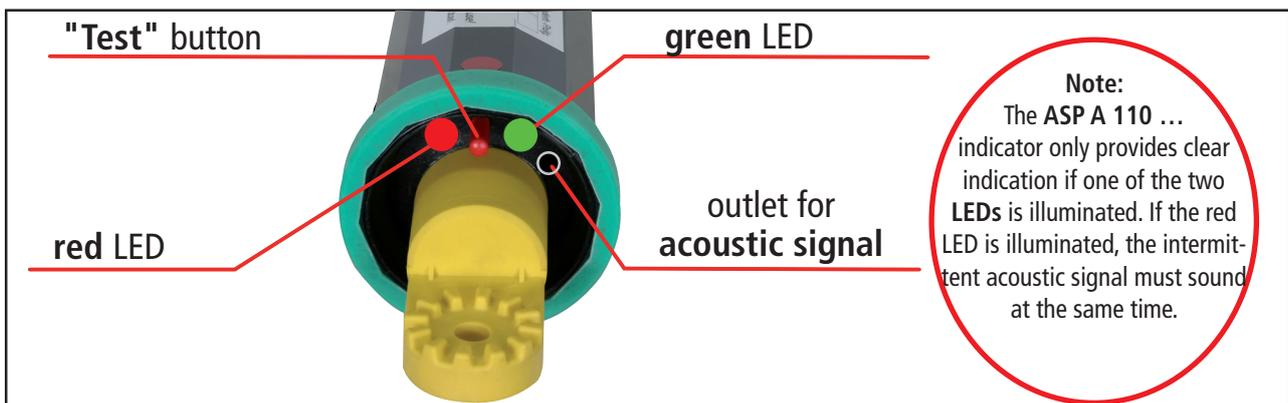

Fig. 3.2.10
- If the battery is low, a constant acoustic signal sounds and the red and green LED are permanently illuminated (see Fig. 3.2.10 and table 1).
- Perform a self-test of the indicator before and after verifying **safe isolation from supply voltage** (see Fig. 3.2.10, page 14).